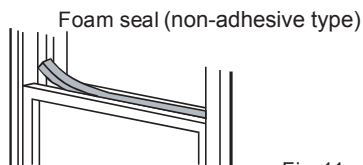

Fig. 11
5. Cut the foam seal (non-adhesive type) to an appropriate length and seal the open gap between the closed top window sash and outer window sash. See Fig. 11.